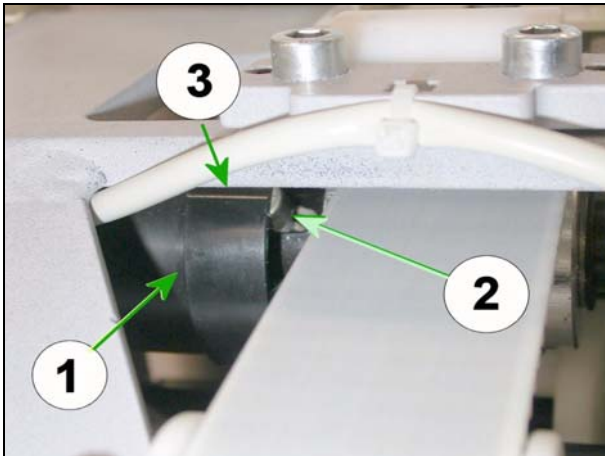
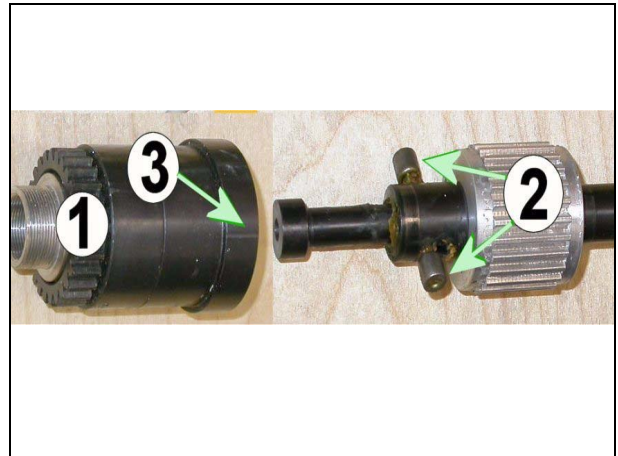
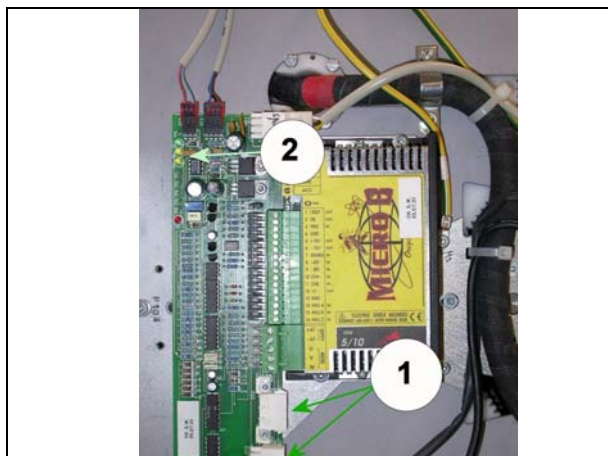

Fig. 5
Fig. 6
Fig. 7
- Turn the bell (1/Fig. 5) until the rollers (2/Fig. 5) are aligned with the marking on the bell (3/Fig. 5). Fig. 6 shows the bell (1/Fig. 6), the marking (3/Fig. 6) and the shaft with the two rollers (2/Fig. 6) once again in a removed state.
- Disconnect both plugs ST5 and ST6 (1/ Fig. 7) from the cable module electronics.
- The C-arm can be moved slightly orbitally. At the same time the rollers (2/ Fig. 5) move into the end position inside the bell (1/ Fig. 5). In both end positions the LED D3 (2/ Fig. 7) should light up half-brightly.
- The C-arm can be moved slightly orbitally. At the same time the rollers (2/ Fig. 5) move into the end position inside the bell (1/Fig. 5).